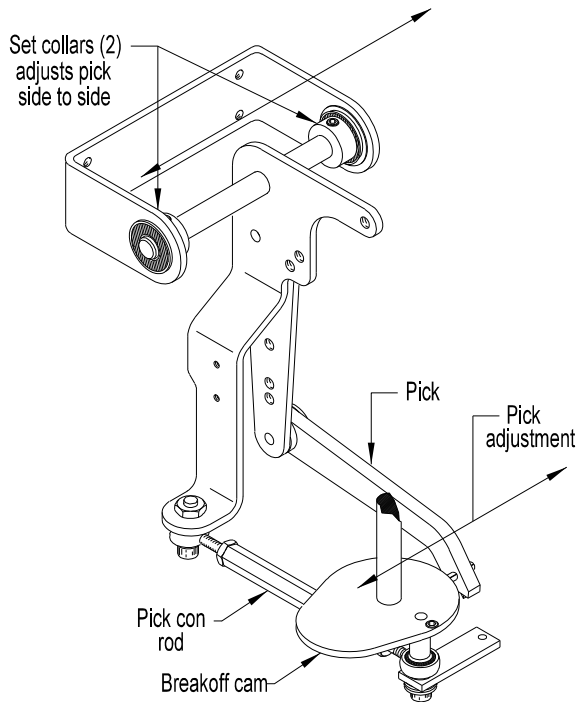

Figure 5.6
## D. LOK PICK: Figures 5.6 and 5.7
1. Loosen the set collars. (Figure 5.6)
2. Slide the pick shaft assembly accordingly. (Figures 5.6 and 5.7)